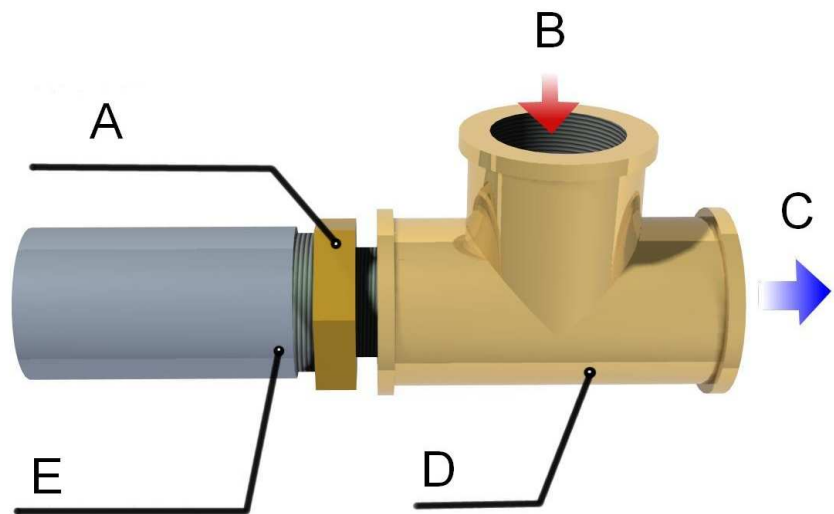

Fig.1
- 1) Fill the collection tank. Open the tank cap and fill the tank (using a T-fitting if necessary) while watching the level indicator (refer to Fig. 1, Point 5.2.1).
- 2) Fill the collection tank. Open the tank cap and fill the tank (using a T-fitting if necessary) while watching the level indicator (refer to Fig. 1, Point 5.2.1).
- 2) Fill the tank through the connection on the top of the chiller, or using a T-fitting if necessary, while watching the level indicator (refer to Fig. 1, Point 5.2.1).
- 2) Open the tank cap and fill the tank (using a T-fitting if necessary) while watching the level indicator (refer to Fig. 1, Point 5.2.1).